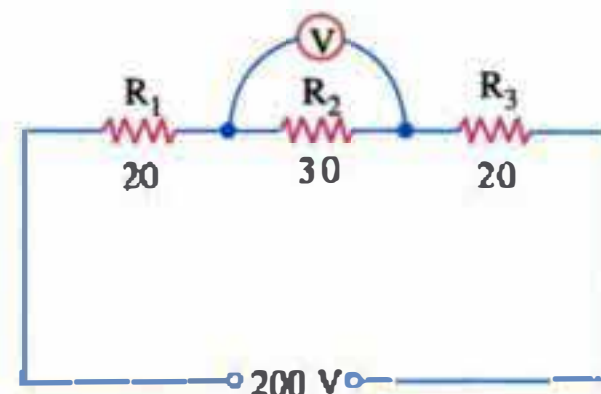

Fig. 2.44
5. If, in Fig. 2.44, R_2 becomes open-circuited, the reading of the voltmeter will